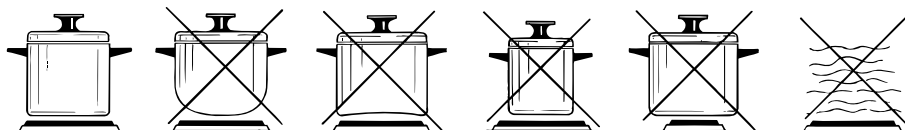

Fig. 7
4. Always use a flat bottomed saucepan which has a base as similar to the diameter of the hotplate as possible. Ensure that the bottom of the pan you are using is dry (fig. 7).